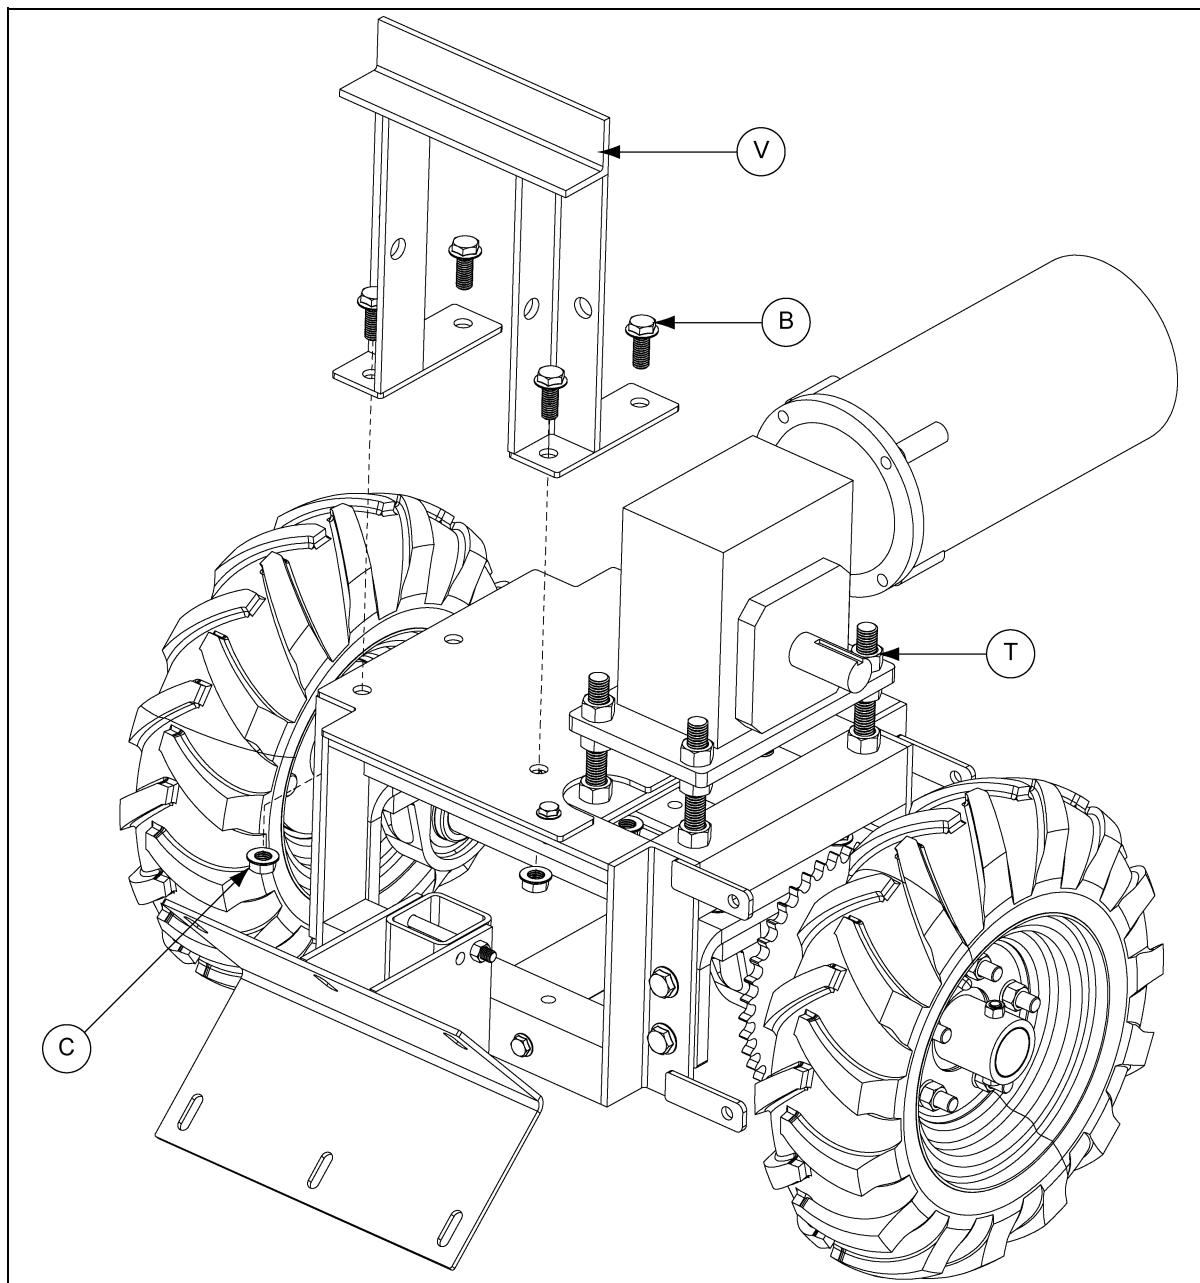

Figure 4W
14. Mount the gearbox plate and motor assembly to the 5/8"-11 x 6" threaded rod installed to the tractor frame using four (4) 5/8"-11 hex nuts (T).
15. Attach the weight stand (V) to the weight plate and tractor frame with four (4) 1/2"-13 x 1-1/4" flange bolts (B) and serrated flange nuts (C). (See Figure 4W.)